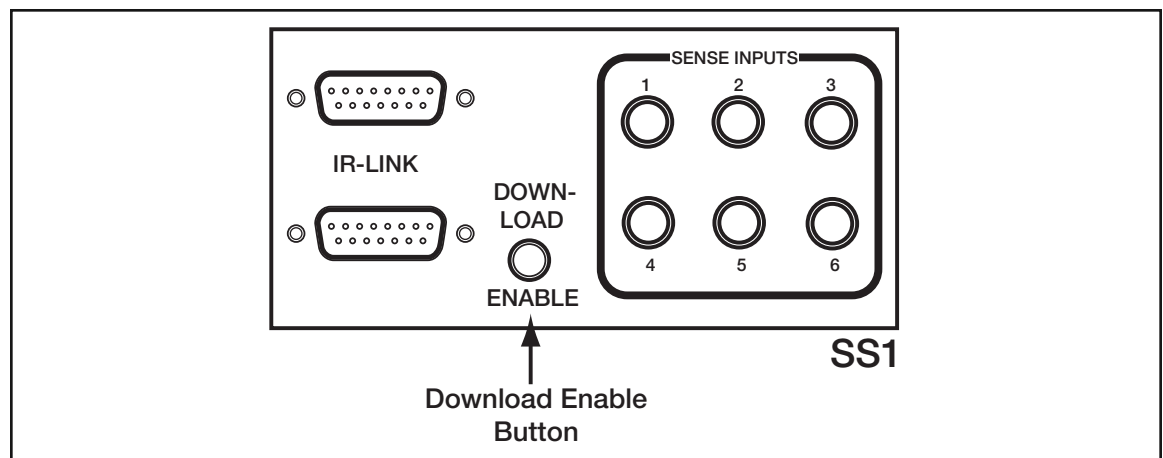

Figure 5.3 - Download Enable Button
2. Press the DOWNLOAD ENABLE Button on the SS1 System Station (**Figure 5.3**).